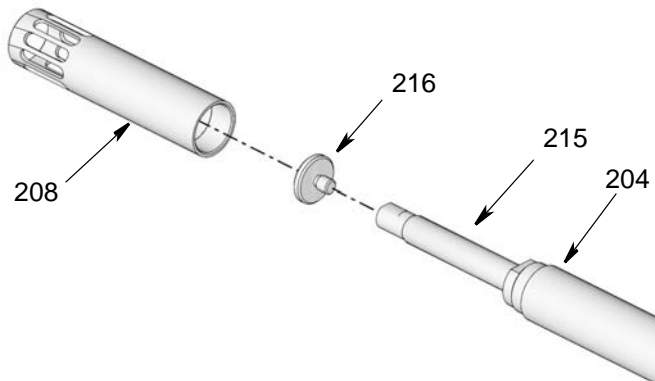

FIG. 29
15. The pump cylinder is comprised of 3 separate sections. Separate the shovel cylinder section (208) from the pump cylinder (204) first, using two pipe
wrenches, working in opposite directions to loosen shovel cylinder. When cylinder (208) is loose enough, use your hands to unscrew and remove it from the other sections (FIG. 29).
HP Pump: Use wrench on flats of priming rod (215) and socket to loosen and remove shovel piston (216) (FIG. 29).